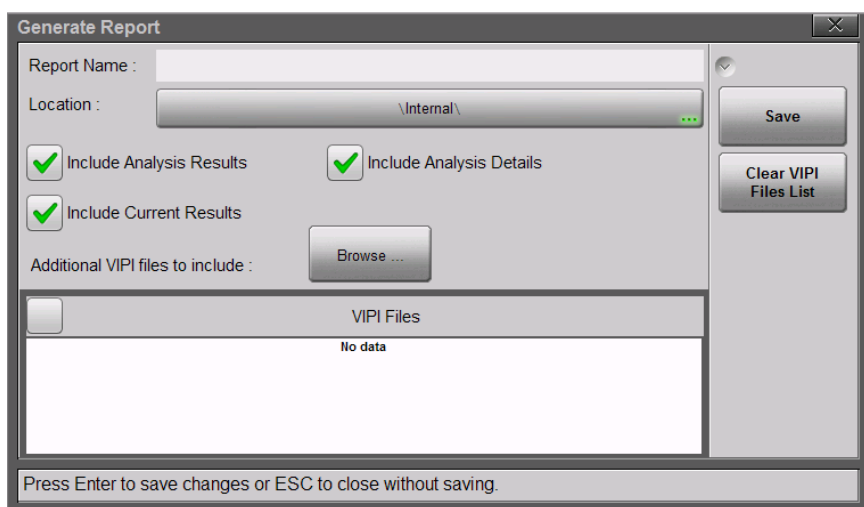

Figure 12-10. Generate Report Dialog
5. Press the **Generate Report** submenu key to open the dialog box in Figure 12-10.